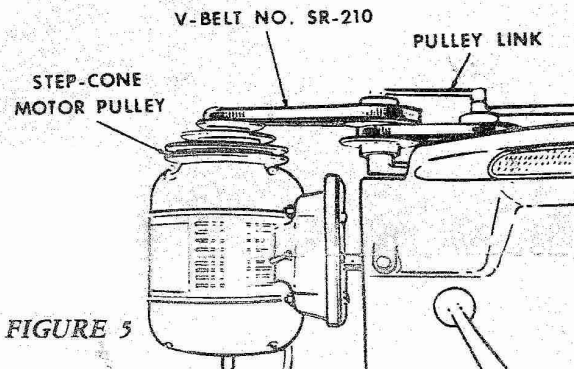

FIGURE 5
9. Re-mount your motor, high enough so that the top (smallest) groove of the Step-Cone Motor Pulley is horizontally in line with the top groove of the rear pulley in the Pulley Assembly (FIG. 5). This may require separating the motor from the motor mount, and turning the motor mount around to place the long side on top.
10. Place V-Belt No. SR-210 around the top groove of the rear pulley in the Pulley Assembly. Install the Pulley Link (FIG. 5) over the ends of the two shafts in the Pulley Assembly, seating it firmly down on the shafts. Now engage the belt (SR-210) around the top (smallest) groove of the Step-Cone Motor Pulley.